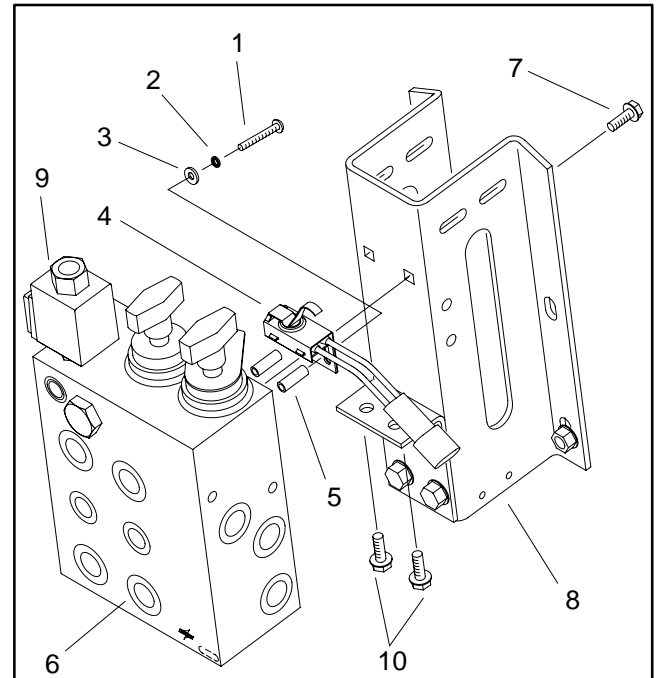

Figure 57
Removal (Fig. 57)
3. If necessary, the hydraulic manifold can be removed (Figure 57):
A. Disconnect solenoid valve (9) and micro switch (4) electrical connectors.
D. Remove cap screws (10) from the hydraulic manifold.
E. Support hydraulic manifold (6) and remove flange screws (7) from the hydraulic manifold. Remove hydraulic manifold from the cylinder support bracket (8).
Installation (Fig. 57)